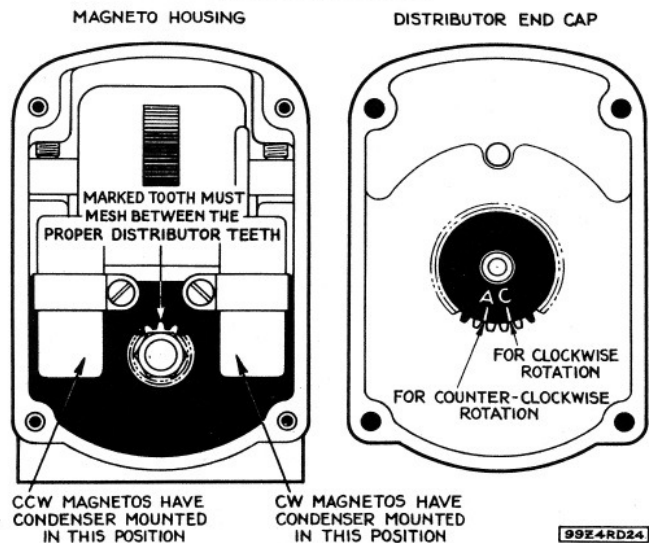

Figure 2 - Meshing Distributor Gear and Rotor Pinion
8. **PROPER MESHING OF GEAR TEETH** - The rotation of the magneto must be correctly ascertained; this can be quickly determined with reference to Fig. 2. Rotation is clockwise when the condenser is mounted to the right of the pinion, and counter-clockwise when mounted to the left. The breaker point assembly also changes its location, but for simplification has been blackened out in the drawing. The gear teeth are marked to facilitate the correct meshing of the gears. For CW rotation the single marked tooth of the pinion must mesh between the two marked teeth of the distributor gear which are designated by the letter C. For CCW rotation, the marked tooth of the pinion must mesh between the two marked teeth of the distributor gear designated by the letter A.